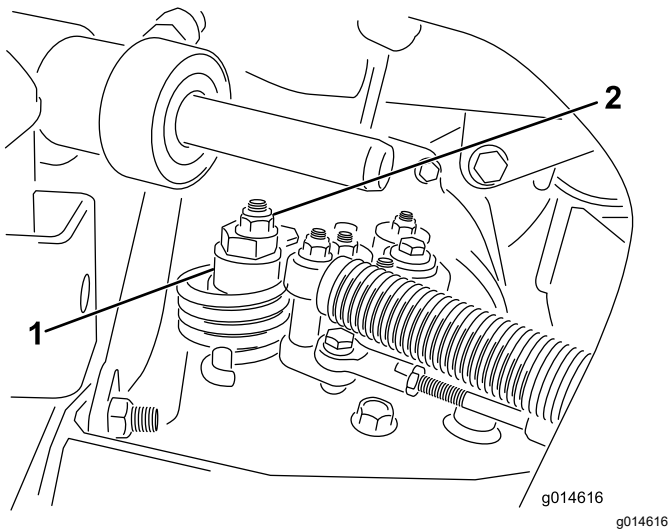

Figure 53
- A. Loosen the nut securing the eccentric to the top of the hydrostat (Figure 53).
- C. Rotate the eccentric until creep does not occur in either direction. When the wheel stops rotating, tighten the nut locking the eccentric and the adjustment (Figure 53). Verify the adjustment with the throttle in the SLOW and FAST position.